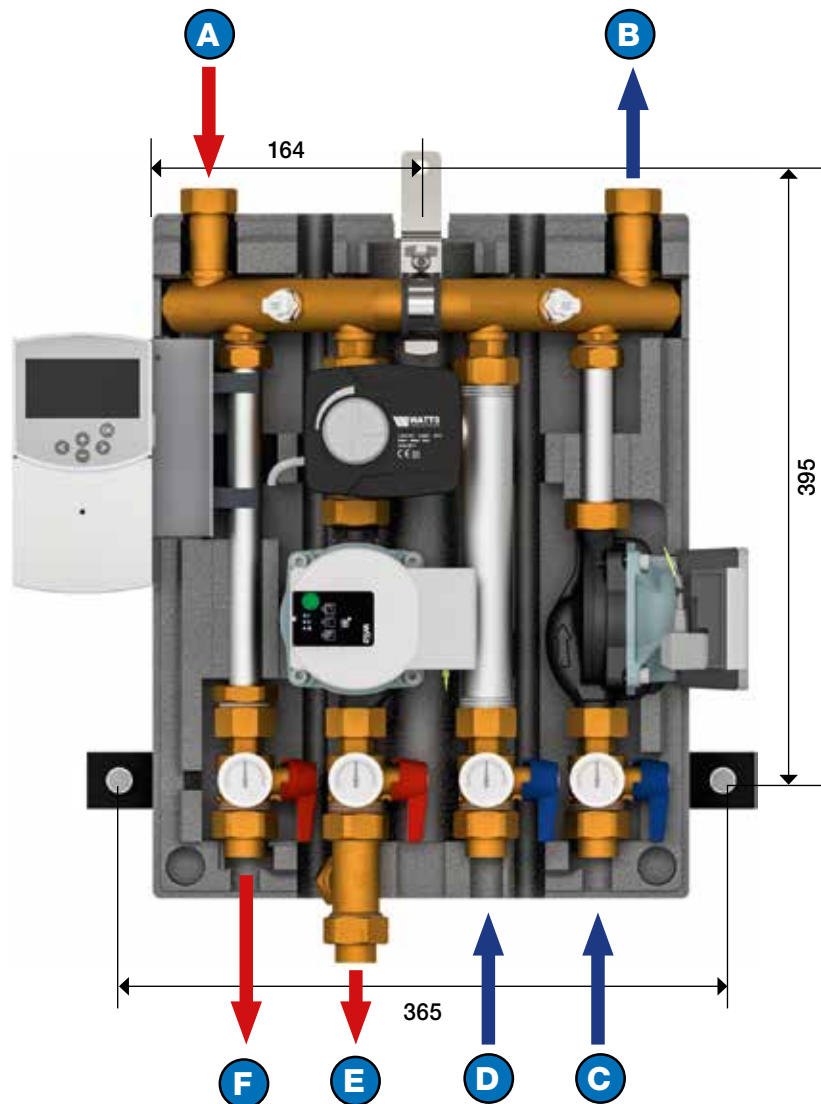

Fig. 3: Drilling pattern
- Draw on the drilling points for installing the Wattmix control station (see Fig. 3 on page 7).
- Connect the supply and return lines (items A-F) to the Wattmix control station (see Fig. 3).
- Shut off the ball valves on the supply and return lines (see Fig. 3 on page 7).
- Slowly open the ball valves on the supply and return lines (see Fig. 3 on page 7).
- Shut off the ball valves on the supply and return lines (see Fig. 3 on page 7)